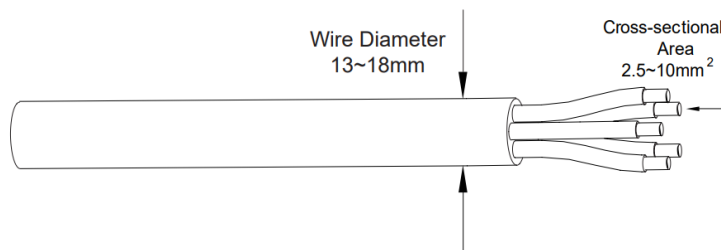

Figure 5-4
② According to the figure 5-4, select an appropriate cable, peel the insulation sleeve of AC cable off for 50mm, and peel off the end of 3L /PE / N wires for 8mm.